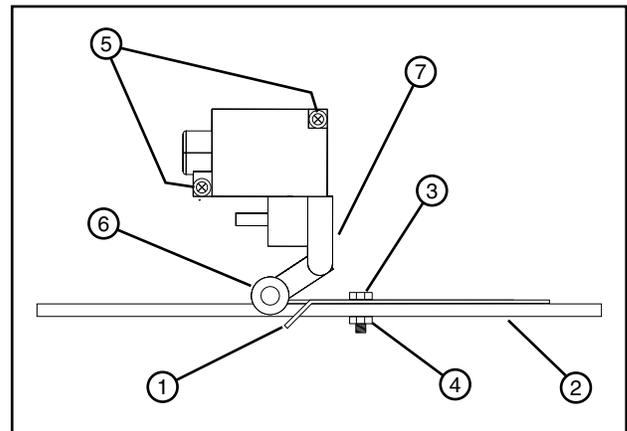

Figure 47-3 1. End Gun Control Ramp
2. After adjusting the range of operation, bend each end of ramp tab down at a 45 degree angle. See figure 47-3.
3. Position end gun control ramps on half rings as desired. Secure each end gun control ramp with two 1/4 in x 1 in cap screws and lock nuts. See figure 47-3.
Loosen the switch mounting hardware, then adjust the switch position so the arm is low enough for the wheel to contact the end gun control ramp and engage the switch. Tighten switch mounting hardware. See figure 47-3.
Loosen the end gun control ramp mounting hardware to make adjustments to the end gun ON/OFF location. See figure 47-3.